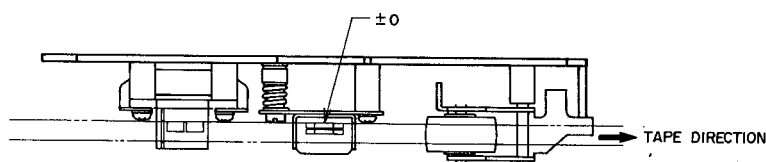

Fig. 6-11
e) REC/PB HEAD AZIMUTH ALIGNMENT (Refer to Fig. 6-11)